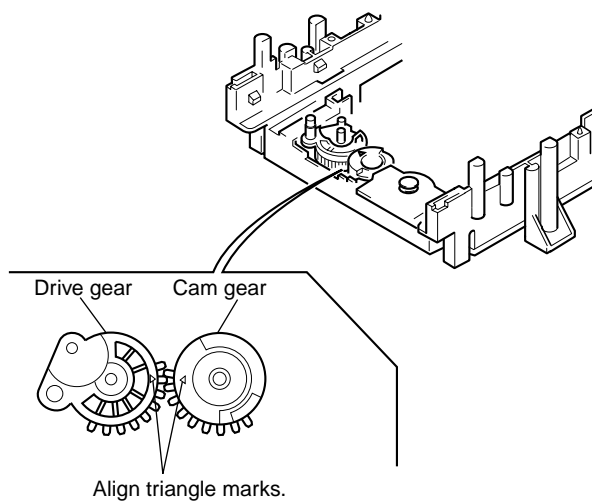

Fig. 10
- 1) Align triangle marks when assembling the cam gear and drive gear. (See Fig. 10)